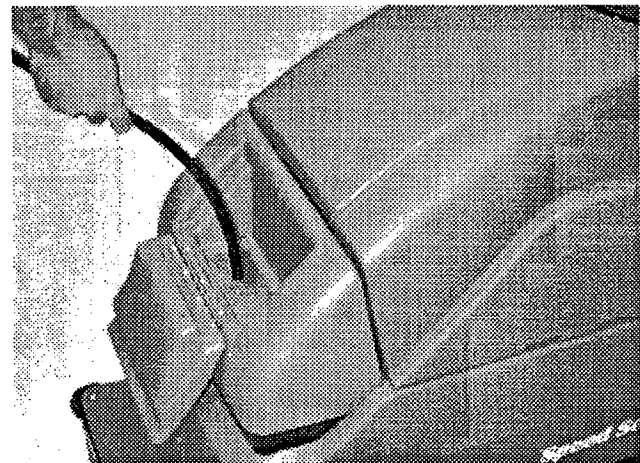

FIG. 9
3. Open solution fill door at front of machine and fill solution tank with up to 10 gallons (37.8 liters) of water (140°F, 60°C maximum temperature). Clear tube at rear of machine has 5 and 10 gallon markers to indicate amount of water poured into tank. (Figure 9)